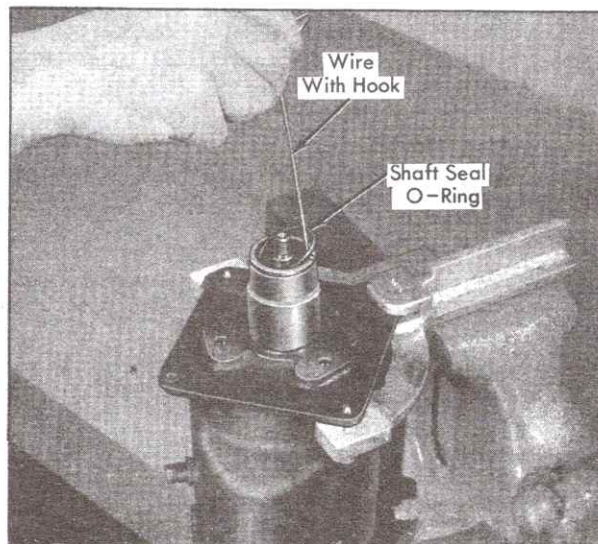

Fig. 1-44 Removing Shaft Seal O-Ring
7. Remove O-ring from interior of front head casting bore. A wire with a hook formed on the end may be used, Fig. 1-44.